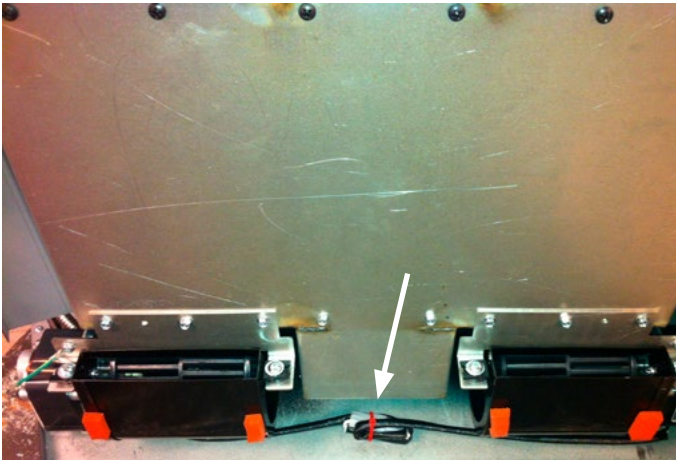

Figure 10
10). Secure the Wire Harness with the cable ties as shown in figure 10 and 11.